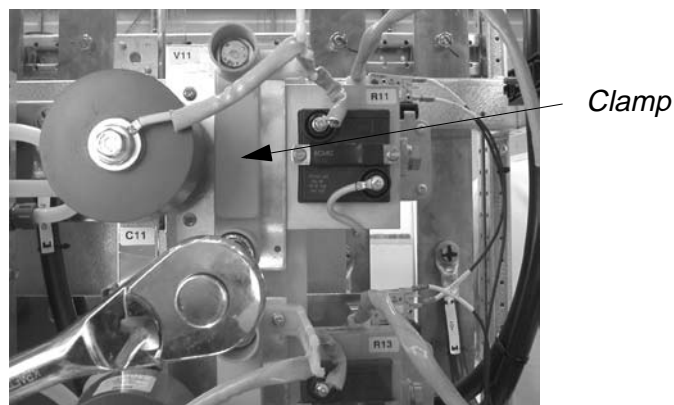

Figure 9-7 Loosening the Bolts
- 3 Loosen the clamp bolts alternately until they can be turned by hand and loosen the thyristor (see Figure 9-7). To prevent the clamp from dropping, do not open the bolts completely.